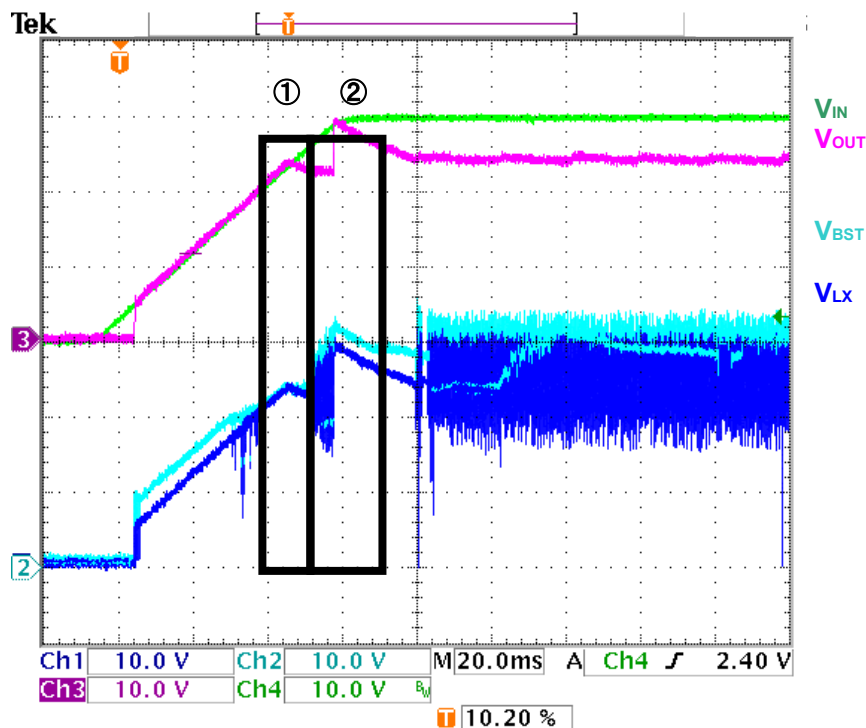
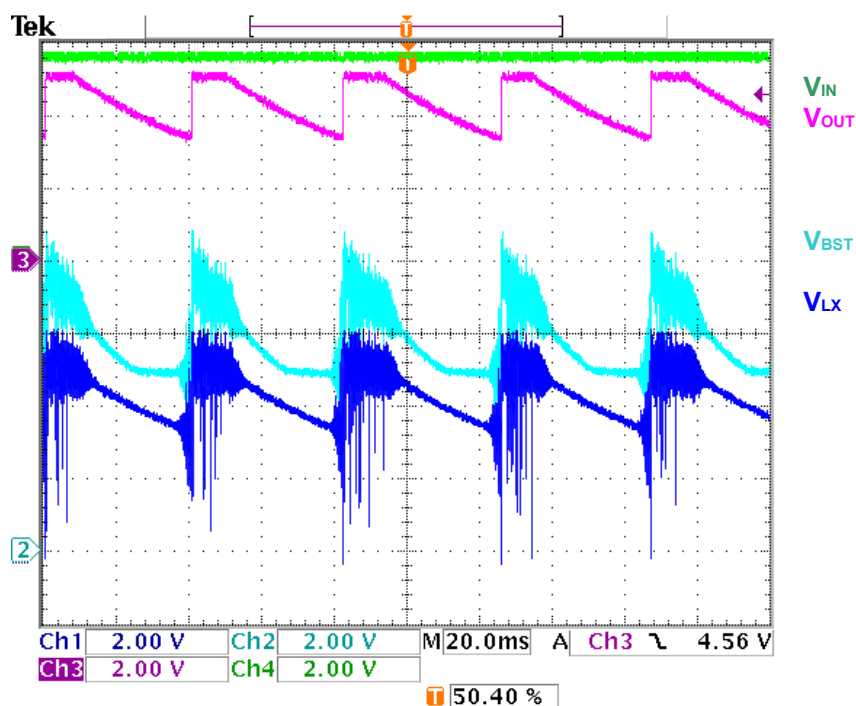

Figure 3. V_{IN} slow start-up (R1245S003A: $V_{IN}=30V$, $V_{OUT}=24V$, $I_{OUT}=0mA$)
Figure 4. The voltage difference between input and output is small (R1245S003A $V_{IN}=5.5V$, $V_{OUT}=5V$, $I_{OUT}=500\mu A$)
When the inductor current is continuous, or load current is big enough even if the discontinuous mode, the forward current of the diode will make Lx pin voltage down and C_{BST} is charged, but at light load, Lx pin voltage does not become low enough against the BST voltage supply regulator output (5V). The voltage of C_{BST} is not high enough and drive capability will be down. (Figure 3-①) Due to the lack of the drive capability, V_{OUT} cannot be maintained, and under-shoot happens to V_{OUT} , Lx pin voltage may become lower than the BST voltage supply regulator output (5V), but the error amplifier operation may be abnormal. When the charge of C_{BST} is recovered and normal switching starts, V_{OUT} becomes back to set output voltage. However, after recovering the V_{OUT} , to recover the error amplifier's operation, some response time is necessary, during this response time, V_{OUT} may be over-shoot. (Figure 3-②) As a result, Lx pin voltage cannot be low enough against the BST voltage supply regulator output voltage (5V), under-shoot and over-shoot may be repeated. (Figure 4)
Abnormal waveforms are shown in the next figures. Figure 3: V_{IN} voltage start-up is slower than the soft-start time Figure 4: The voltage difference between input and output is small and load current is small